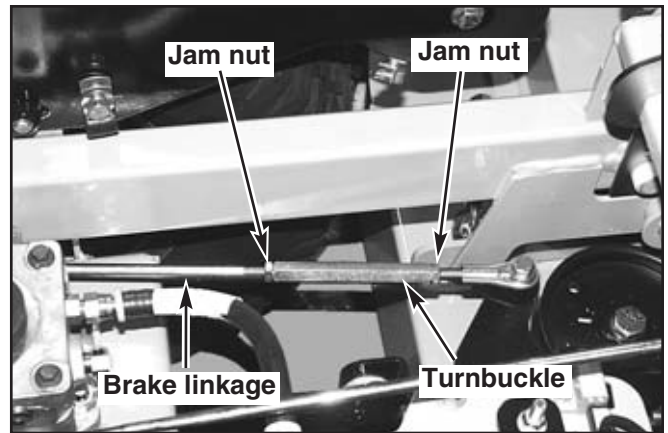

Figure 11-29
7. Loosen the brake linkage jam nuts. Fig. 11-29